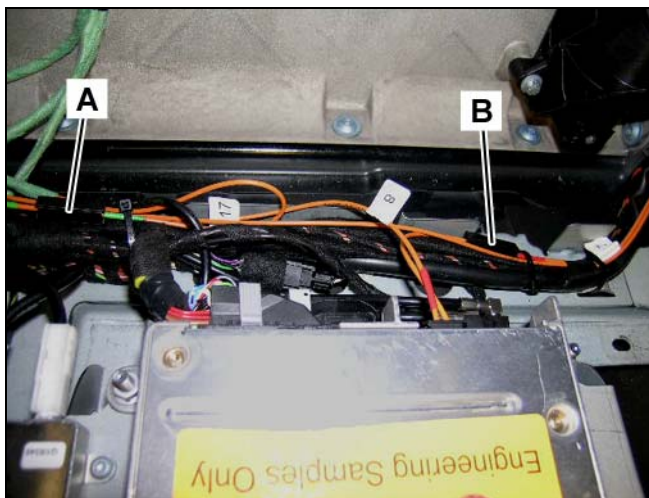
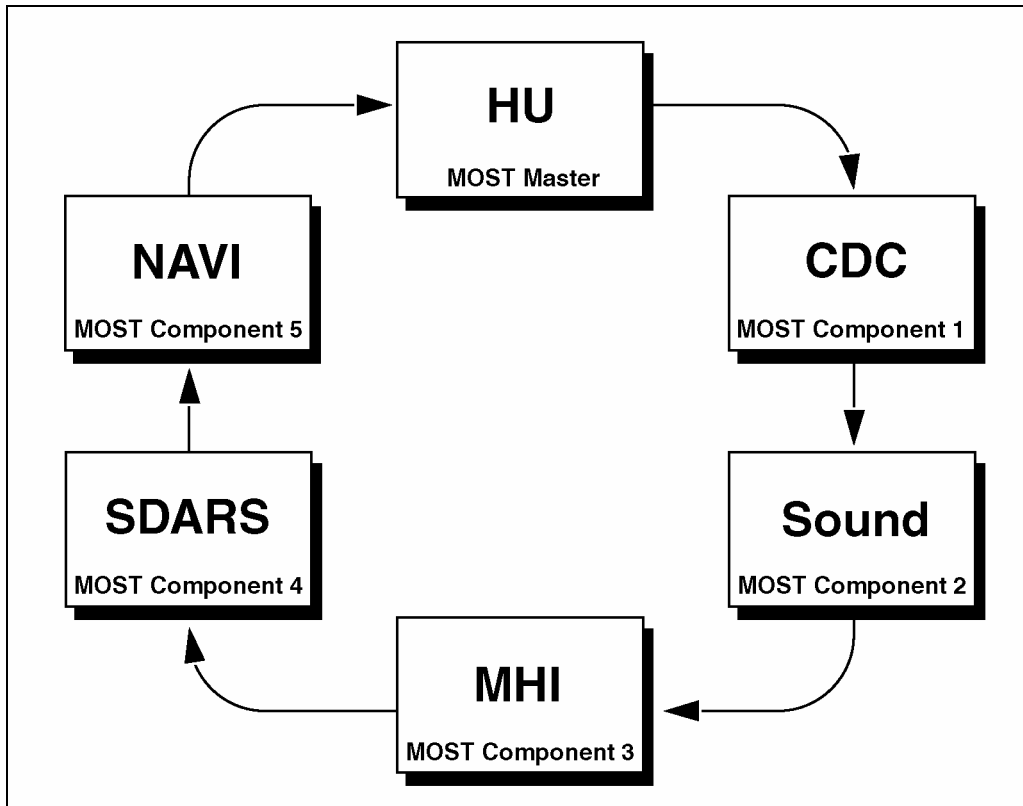

Figure 32
Figure 34
3. Open the SDARS optical fiber couplings (A and B, Figure 32) and configure the MOST ring according to Figure 34.
2. Set the MOST ring configuration to match that of Figure 34 via path:
Note: The MOST ring configuration in Figure 34 is an example of a configuration including every component. Some installations will not include all the components shown in the example. If a component is not present, connect the preceding component to the component following the one not present.
Match the MOST ring configuration to Figure 34.
Failure to have the configuration match Figure 34 will result in erroneous system operation and/or intermittent malfunctioning of some or all components in the ring.
DO NOT alter the configuration in Figure 34 to match the vehicle configuration.